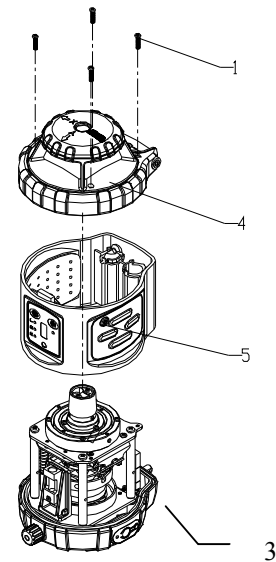

Figure 3
4. Pull out the battery connector plug and disassemble the cover module (4#). Reference Figure 3.
5. Gently disconnect the keypad and audible alarm connectors and remove the housing (5#) as shown in figure 3 . Due to gasket material used for hermetically sealing the housing, some force may be required to break this seal in order to remove housing components.